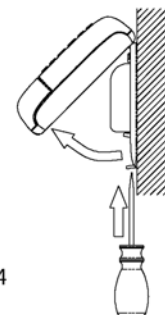

Fig. 4
- Remove the thermostat from the bracket (see fig. 4)